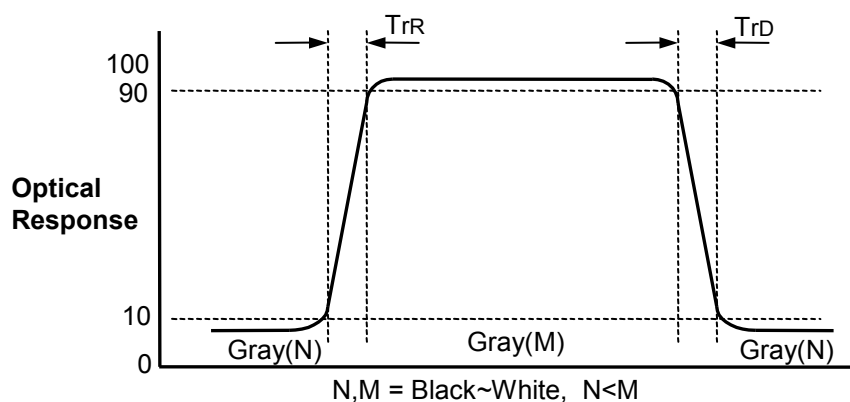

FIG. 11 Response Time
2. Response time is the time required for the display to transit from G(N) to G(M) (Rise Time, TrR) and from G(M) to G(N) (Decay Time, TrD). For additional information see the FIG. 11. (N<M)